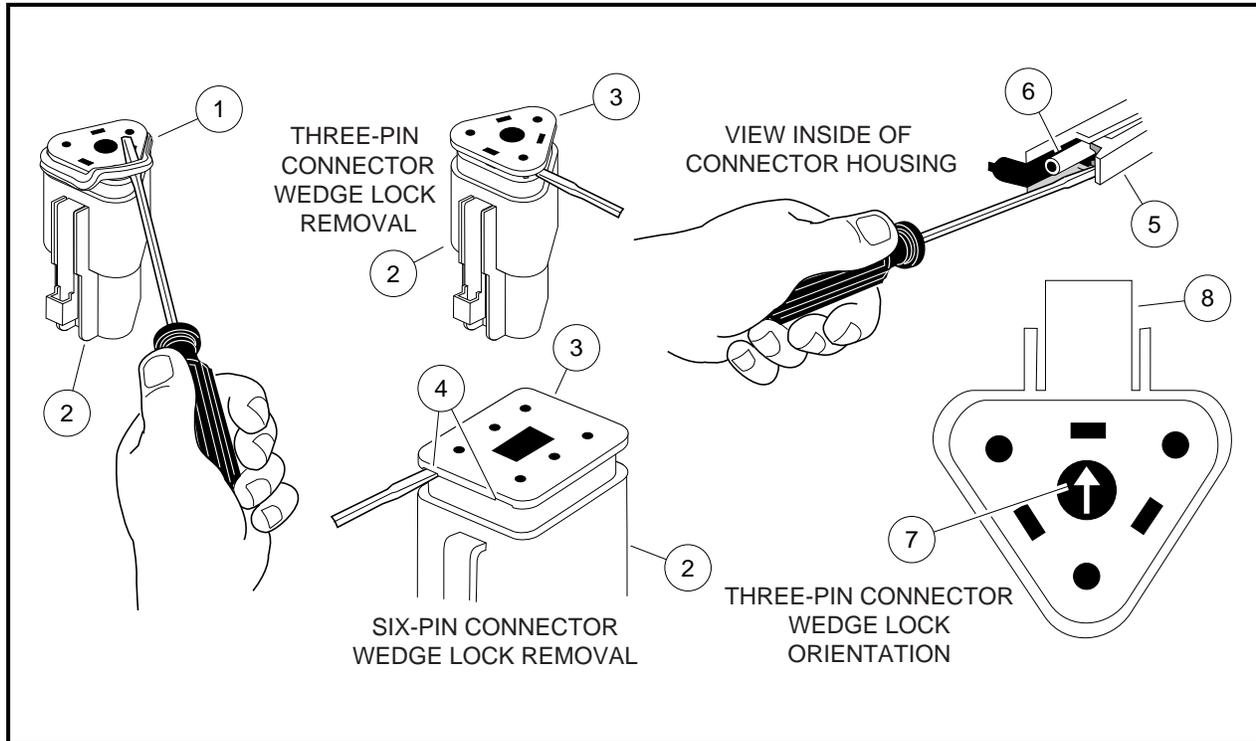

Figure 12-4 Terminal Plug Housing
3. Using an 1/8 in. tip flat blade screwdriver, remove the rubber gasket from the plug housing (**Figure 12-4, Page 12-6**).
4. Place the flat blade of the screwdriver against the wedge lock at the recessed area and pry wedge lock from plug housing (**Figure 12-4, Page 12-6**).
5. Insert screwdriver into terminal under the clip and gently raise the clip and pull wire from housing (**Figure 12-4, Page 12-6**).
2. If using a three-pin connector, make sure wedge lock is positioned correctly with arrow on wedge lock pointing toward housing clip (**Figure 12-4, Page 12-6**).